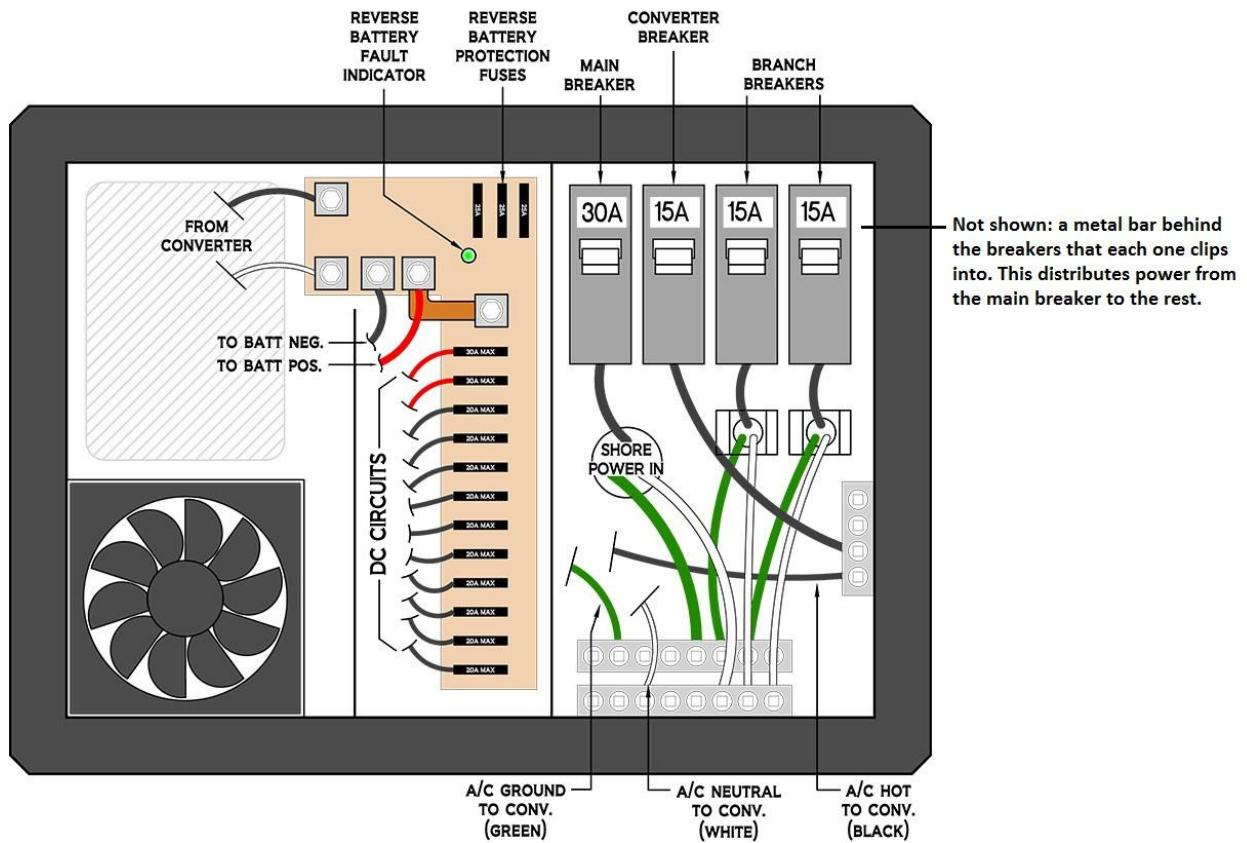

Fig. 3 - Zac's much clearer diagram with an addendum.
- b. One of the breakers needs to send current to the converter. You can also run fixtures and such off this same breaker, if you like. This is what's going on in the Fig. 3 above, where hot from the 15 amp breaker goes to a buss bar before going to the converter. Other fixtures can then be attached to that buss bar. The black (hot) wire that goes to the converter is already installed by default, along